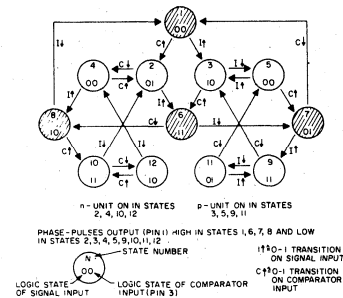

Fig. 7 - State diagram of phase-comparator II.
Fig. 7 shows the state diagram for phase-comparator II; each circle represents a state of the comparator. The number at the top inside each circle represents the state of the comparator, while the logic state of the signal and comparator inputs, represented by a 0 or a 1, are given by the left and right numbers, respectively, at the bottom of each circle. The transitions from one state to another result from either a logic change on the signal input (I) or the comparator input (C). A positive transition and a negative transition are shown by an arrow pointing up or down, respectively. The state diagram assumes that only one transition on either the signal input or the comparator input occurs at any instant. States 3, 5, 9, and 11 represent the condition at the output of phase-comparator II when the p-MOS driver is ON, while states 2, 4, 10, and 12 determine the condition when the n-MOS driver is ON. States 1, 6, 7, and 8 represent the condition when the output of phase-comparator II is in its high impedance state; i.e., both p- and n-devices are OFF, and the phase-pulses output (terminal 1) is high. The condition at the phase-pulses output for all other states is low.
As an example of how one may use the state diagram shown in Fig. 7, consider the operation of phase-comparator II in the locked condition shown in Fig. 6. The waveforms shown in Fig. 6 are broken up into three sections: section I corresponds to the condition in which the signal input leads the comparator input in phase, while section II corresponds to a finite phase difference. Section III depicts the condition when the comparator input leads the signal input in phase. These three sections all correspond to a locked condition for the COS/MOS PLL; i.e., both signal- and comparator-input signals are of the same frequency but differ slightly in phase. Assume that both the signal inputs begin in the 0 state, and that phase-comparator II is initially in its high-impedance output condition (state 1), as shown in Figs. 7 and 6, respectively. The signal input makes a positive transition